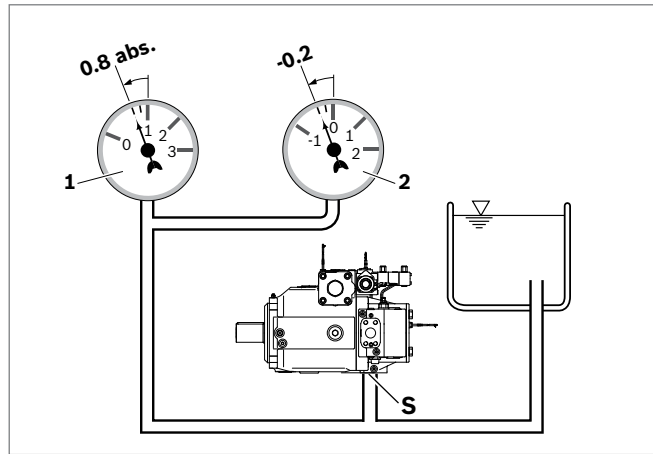

Fig. 7: Boost pump suction pressure
- ▶ Make sure that a minimum suction pressure of 0.8 bar absolute is present at port **S** during operation and after a cold start for all installation positions and installation locations of the axial piston pump; see Fig. 7. See data sheet 92105 for other pressure values.